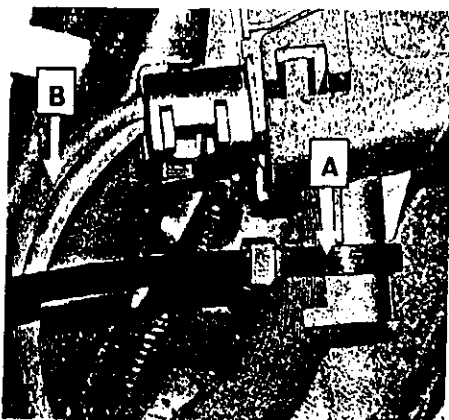

Figure 10: Affixing the SBC wiring harness to the cap of the SBC connector housing
15. Affix SBC wiring harness (A) without ground lines to the cap of the SBC connector housing using a new cable tie and affix ground wiring harness (B) to the SBC connector housing using a new cable tie (see Figure 10).